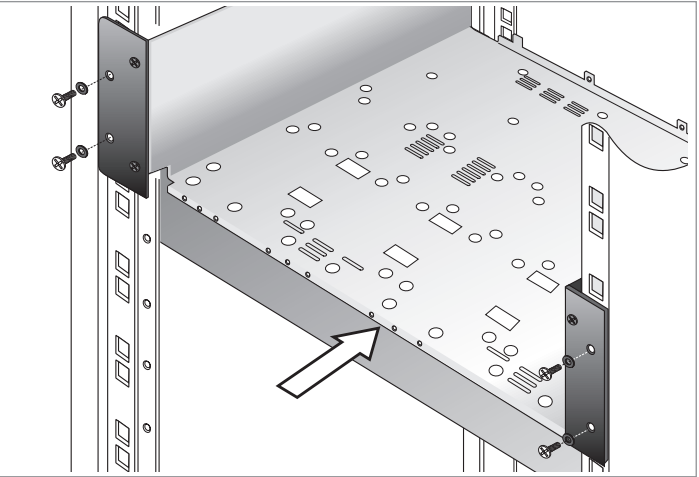

Fig. 2.1.4
2. Insert the modules-cage as shown in Figure 2.1.4, securing it to the rack by means of the screws provided for this purpose.